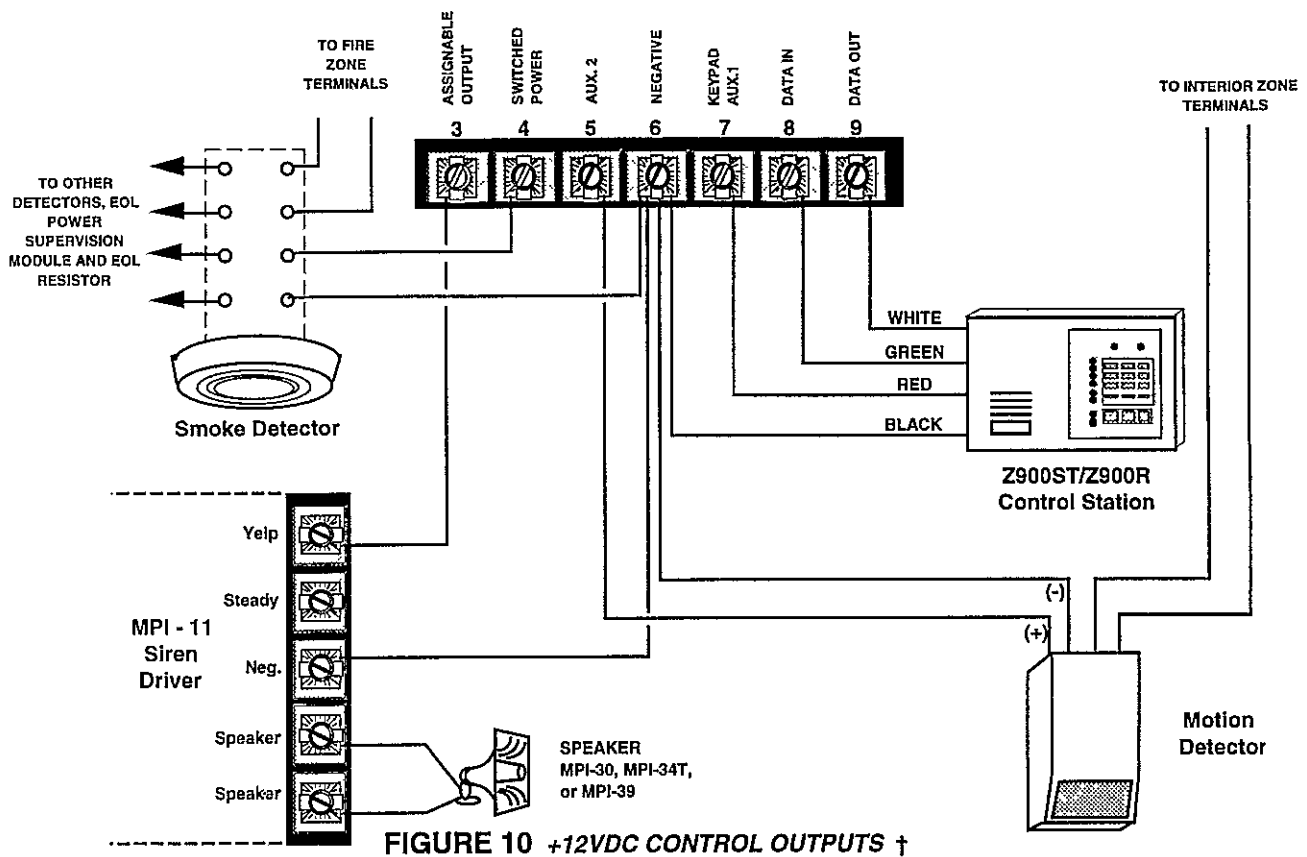

FIGURE 10 +12VDC CONTROL OUTPUTS †
Provides (+)12volts DC power for smoke detectors (see *ff* note on page i) and other devices that require momentary power interruption to reset. The power from this output can be momentarily interrupted to reset smoke detectors by pressing the “7” key and holding for three seconds. Each time the control does an automatic 24 hour test, power from this output will be removed for 5 seconds. For this reason, Switched Power should not be used to power any device that will trigger an alarm upon interruption and restoration of power. This output is fused at 2.5 amperes by fuse F2 which is also used to fuse the Keypad Power/Auxiliary 1 output (terminal 7). Do not exceed the current drain limitations as indicated in Table 10, page 42. See Figure 10 for a hook-up example.
Used to provide (+)12 volts DC power for motion detectors and other devices requiring uninterruptable power. This output is protected by a 2.5 ampere fuse (F1) which is also used to fuse the Assignable Output (terminal 3). Do not exceed the current drain limitations as indicated in Table 10, page 42. See Figure 10 for a hook-up example.
Used to supply (+)12 volts DC power for control stations. This output is fused at 2.5 amperes by fuse F2 which is also used to fuse the Switched Power output (terminal 4). This output may also be used to supply auxiliary power for motion detectors and other devices provided the total current draw does not exceed the limits as set by Table 10, page 42. See Figure 10 for a hook-up example.
Assignable through programming (Function 256) to provide a (+) 12volt DC output upon any or all designated alarm conditions. If this output is not used for output upon alarms, it may be assigned to any ONE of the following other conditions: Switched Power reset (key 7)/24 hour automatic tests, access activation, supervisory/trouble conditions, or entrance pre-alarms and chime (key 6). If used to provide output upon alarms, it then must be defined as to the type of alarm condition(s) that will activate this output. This may include Burglar, Auxiliary "A", Auxiliary "B", or Auxiliary "C" alarms (or any combination) as selected through programming Functions 257-260. Sirens, bells, or other output devices may be connected directly to the Assignable Output (terminal 3) of the control provided they do not exceed the current drain limitations as indicated in Table 10, page 42. It may be desired to use this output for non-alarm conditions when using the optional Z729 Siren Driver/Output Expander. This output is protected by a 2.5 ampere fuse (F1) which is also used to fuse the Auxiliary 2 output (terminal 5). See Figure 10, page 10 for a hook-up example.